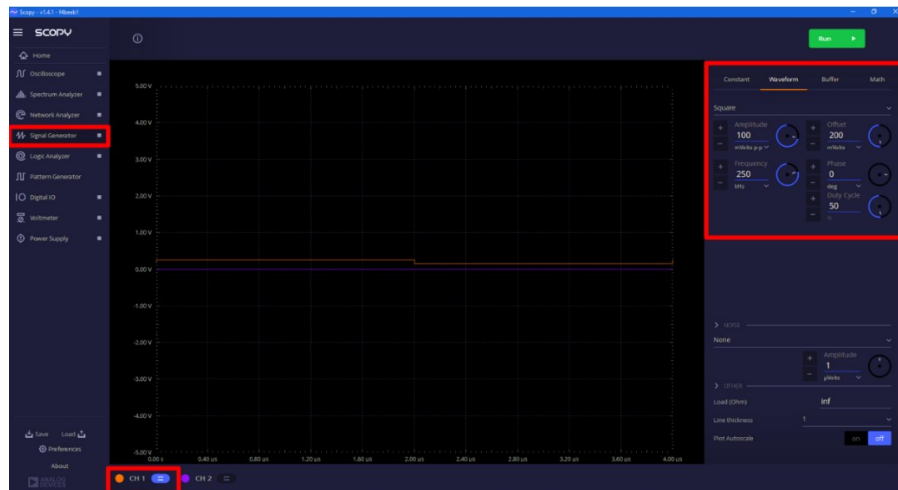
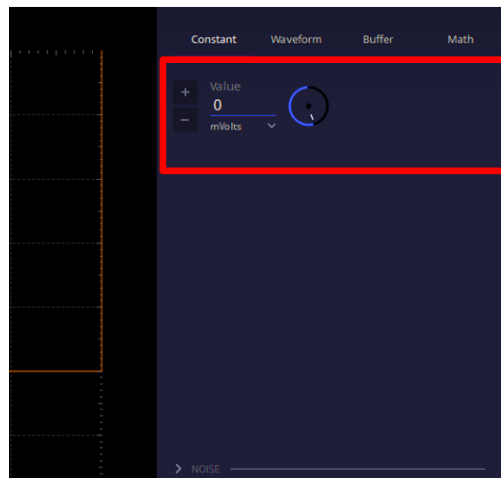

Figure 22. Channel 1 Signal Configuration for the Capacitive Load Stability Demo
Figure 23. Channel 2 Signal Configuration for the Capacitive Load Stability Demo
2. After the supply voltages have been configured, click **Signal Generator** from the **Instruments Menu** to set the signal to be applied. Click **CH 1** (Channel 1) first on the bottom left corner of the GUI and set a **250kHz, 100mVpp square wave signal with an offset of 200mV and a duty cycle of 50%** as shown in Figure 22.
Afterwards, click **CH 2** (Channel 2) as shown in Figure 22. Set a **constant voltage of 0mV** for Channel 2 as shown in Figure 23.